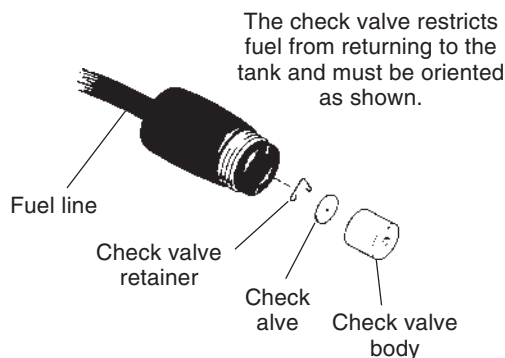

Figure 3.4 Check valve assembly (TK shown)
- Consult the current Illustrated Parts List (IPL) to verify the requirement and proper installation of an in-line check valve (Figure 3.4).